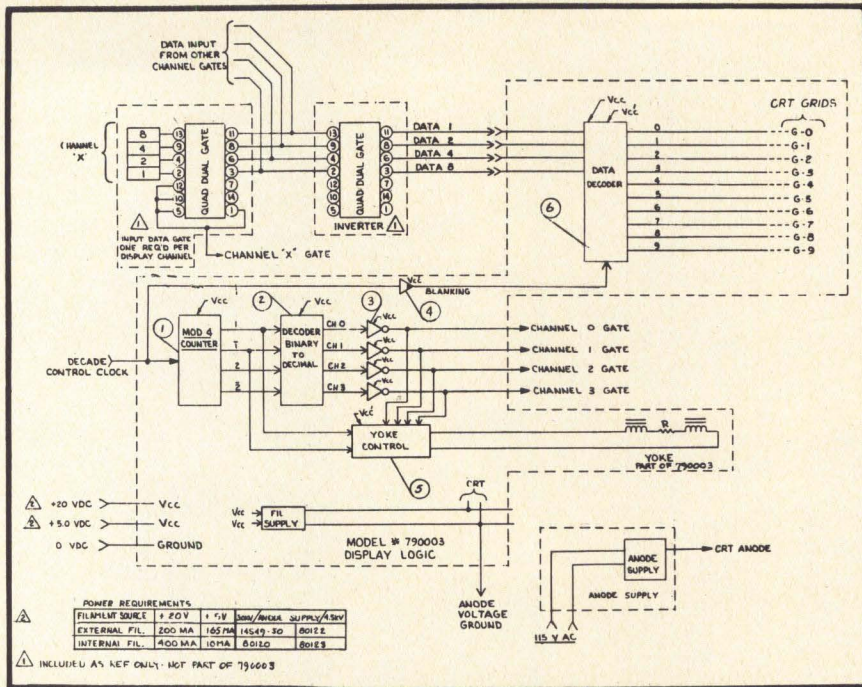
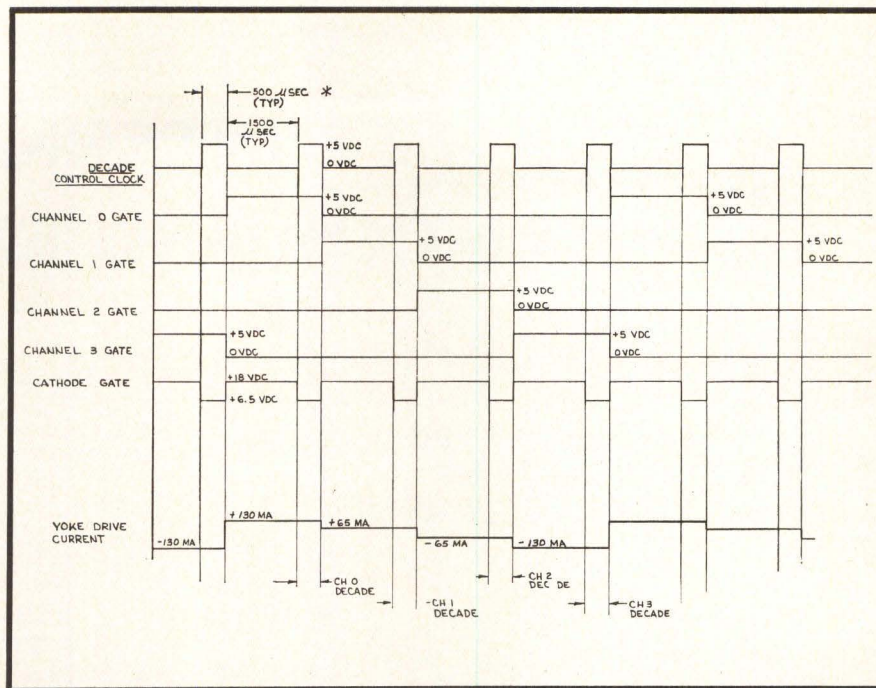

Fig. 2 Four decade display system.
Fig. 3 Time relationship between control signals.
A complete four decade display system using the SA nimo is schematically shown in Fig. 2. The display is comprised of:
The sequence control accepts a decade control clock in the format detailed by Fig. 3. This clock steps a four bit counter (1 in Fig. 2), the output of which is decoded (2) and inverted (3) to produce channel control gates 0 through 3. These gates are used to select the decade (or channel) to be displayed as well as position the character via the yoke control (5). The decade control clock is also used to generate the blanking pulse (4). This pulse provides Z-axis modulation to interrupt the nimo beam while the decade control clock is low by driving all control grids to ground while the cathode is held at +6.5 Vdc, thereby biasing all grids to cutoff. When the decade control clock is high (+5V) the blanking pulse is removed and the control grid voltage levels are determined by the data decoder (6).
The yoke control combines the first two outputs of the mod-4 counter with the 4 channel gates to control the magnitude and direction of the current through the yoke. The profile of the yoke drive current is as detailed by Fig. 3. As shown, the current changes in four steps from a positive 130 mA to a negative 130 mA causing the beam to be magnetically deflected from left to right across the face of the nimo.
The data decoding section (6, Fig. 2) accepts 4-line BCD data (true terms) and decodes to decimal, inverts and drives the nimo control grids. Since only a single set of ten grids is used (allowing the decoder to be time shared), all four common lines as shown by Fig. 2. The channel gate signals are used to select the channel or decade to be displayed.
The time relationship between control signals is detailed by Fig. 3. A single sweep and display cycle is as follows: